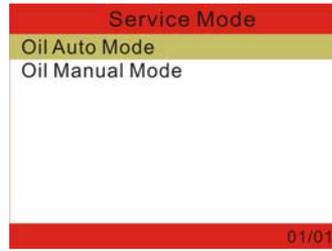

Figure 4-3
- Press [▲] / [▼] to select BMW, press [↵] to confirm, Figure 4-3 appears: